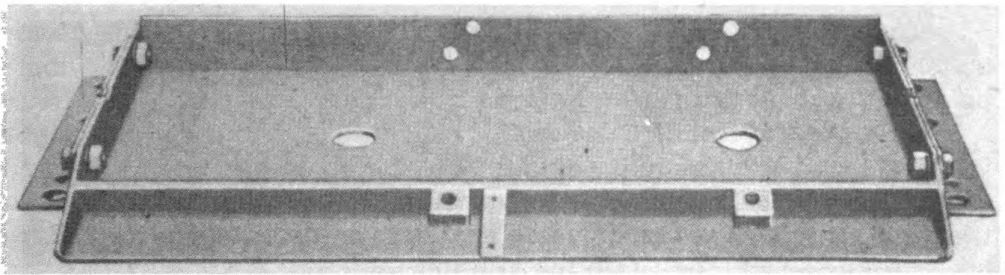

Fig. 14. Baseplate in position on mock-up sponson shelf.
a. Baseplate (fig. 14). (1) On some models of medium tanks, lift